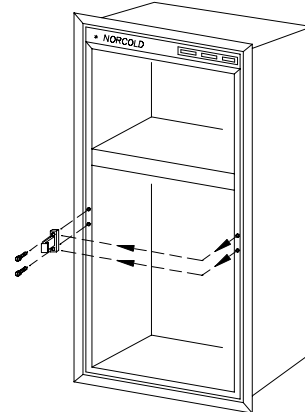

Figure 16
- Remove both travel latches by taking out the two screws holding each to the refrigerator. Use the #2 Phillips screwdriver. Remove the two screws from each of the corresponding holes on the opposite side of the refrigerator. Relocate them in the two holes just exposed by the removal of the latches. Attach the latch in the new position so the tab points towards the opposite side of the refrigerator. Do not tighten screws completely. (See Figure 16)